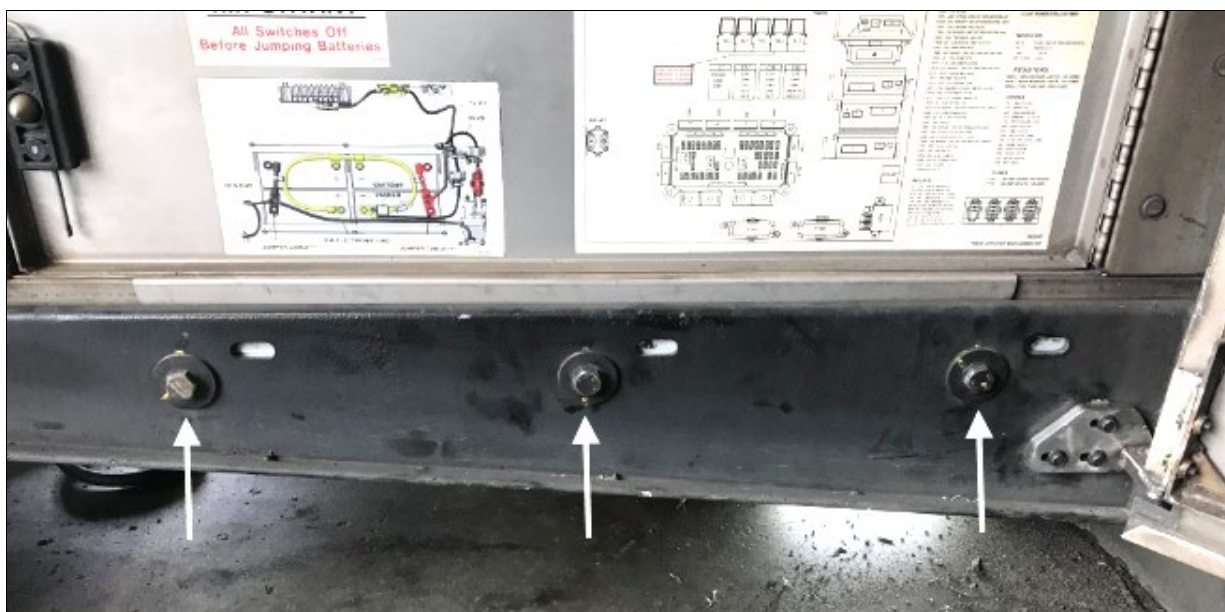

FIGURE 13: FRONT BATTERY TRAY BOLTS
- Loosen the three front bolts (Figure 13)